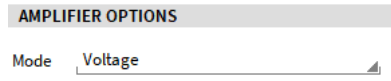

Figure 5-102: Voltage measurement mode
- Set the Amplifier Mode to Voltage (see Figure 5-102):